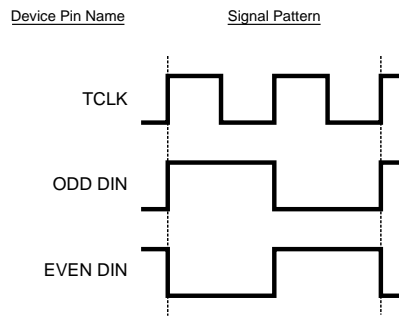
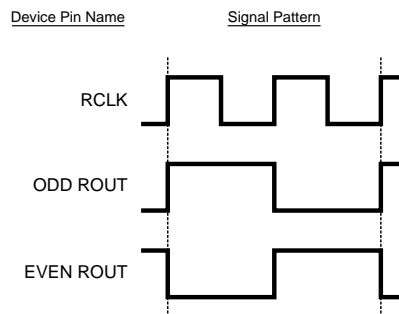
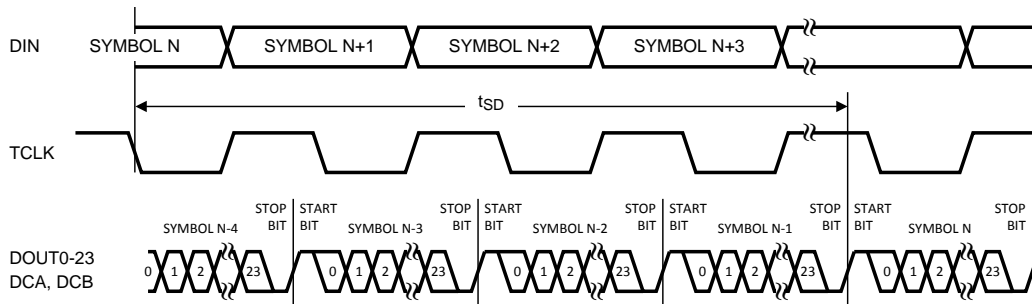

Figure 1. Serializer Input Checker-board Pattern
Figure 2. Deserializer Output Checker-board Pattern
Figure 8. Serializer Delay
| I DDT   | Serializer (Tx)Total Supply Current(includes load current)   | R L = 100ΩPre-emphasis = OFFVODSEL = LChecker-board pattern (Figure 1)      | f = 40 MHz |     | 40  | 80  | mA    |
|  |  | R L = 100ΩR PRE = 6 kΩVODSEL = LChecker-board pattern (Figure 1) | f = 40 MHz |     | 45  | 85  | mA    |
|  | Serializer (Tx)Total Supply Current(includes load current)   | R L = 100ΩPre-emphasis = OFFVODSEL = HChecker-board pattern (Figure 1)      | f = 40 MHz |     | 40  | 85  | mA    |
|  |  | R L = 100ΩR PRE = 6 kΩVODSEL = HChecker-board pattern (Figure 1) | f = 40 MHz |     | 45  | 90  | mA    |
| I DDR   | Deserializer (Rx)Total Supply Current(includes load current) | C L = 8 pF LVCMOS OutputChecker-board pattern(Figure 2)                         | f = 40 MHz |     |     | 95  | mA    |
- (1) Figure 1 Figure 2 Figure 8 Figure 12 Figure 14 show a falling edge data strobe (TCLK IN/RCLK OUT).
| $t_{SD}$  | Serializer Delay                     | $R_L = 100\Omega$ , (Figure 8)VODSEL = L, TRFB = H                          |     | 3.5T +2.85 | 3.5T +10 | ns                |
|           |                                      | $R_L = 100\Omega$ , (Figure 8)VODSEL = L, TRFB = L                          |     | 3.5T +2.85 | 3.5T +10 | ns                |